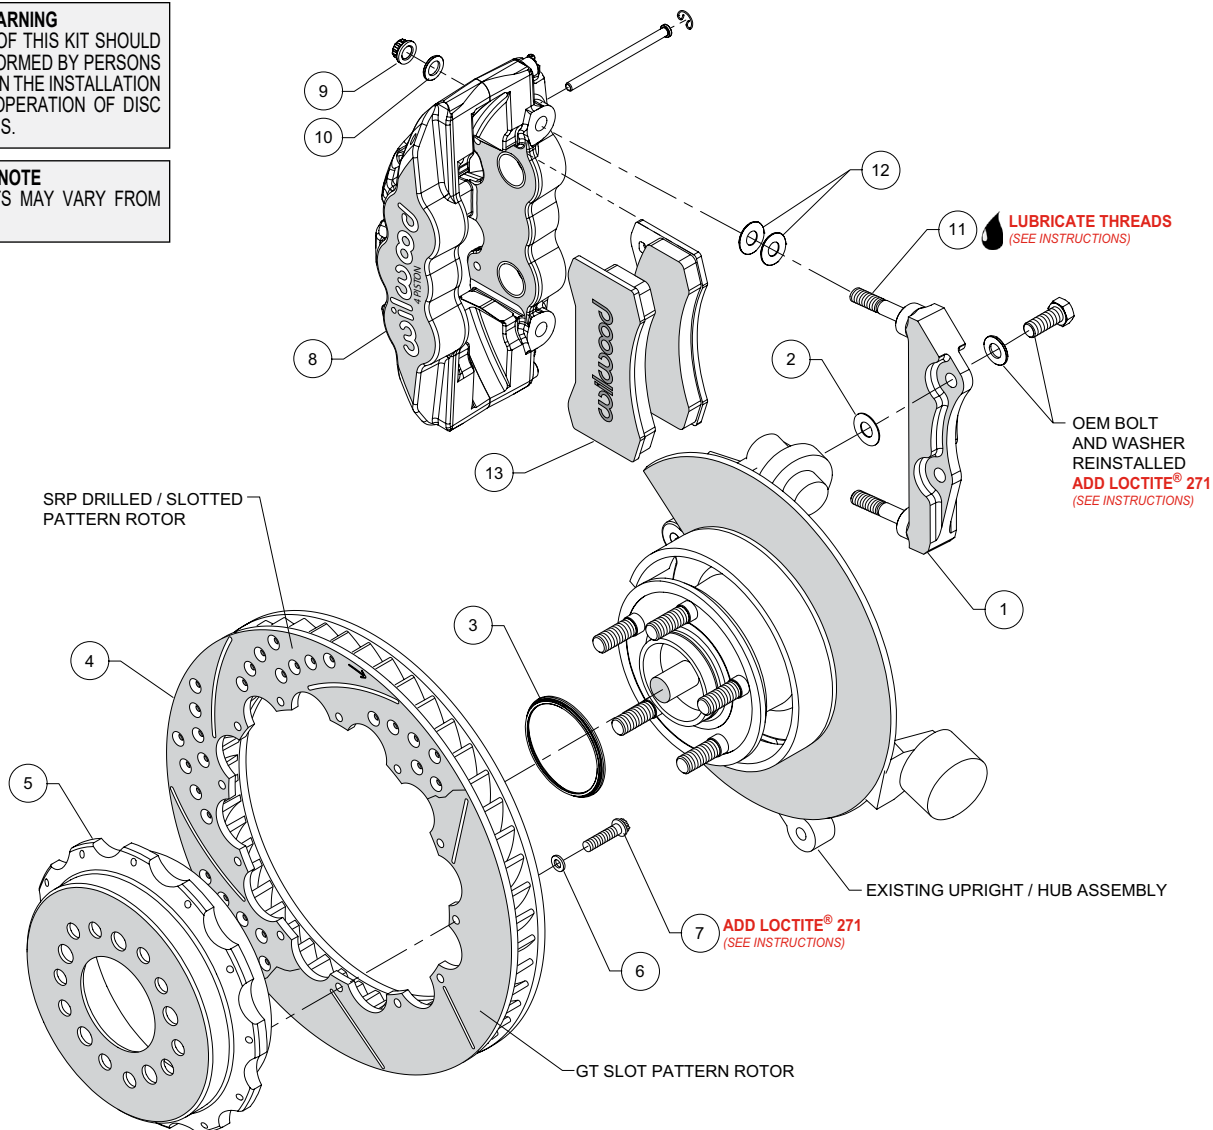
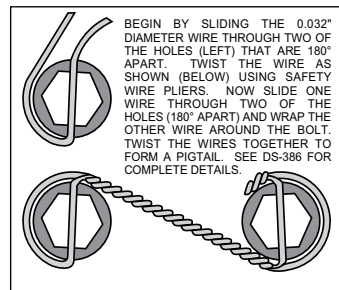

Figure 1. Typical Installation Configuration
Figure 3. Safety Wire Diagram
**Assembly Instructions** (numbers in parenthesis refer to the parts list and Figure 1 on the preceding pages):
- The caliper mount bracket (1) should initially be installed with clean, dry threads on the mounting bolts. Orient the bracket as shown in Figure 1 and install using the saved OEM caliper mount bolts and washers. Initially place one .033" thick shim (2) on each bolt between the bracket and upright, Figure 1. Temporarily tighten the mounting bolts. **NOTE: The bracket must fit squarely against the mount bosses on the upright.** Inspect for interference from casting irregularities, machining ridges, burrs, etc. Later, after the caliper alignment has been checked, the mount bolts will be secured using red *Loctite*® 271.
- Orient the rotor (4) and the hat (5) as shown in Figure 1 and Photo 1. Attach rotor to hat using bolts (7) and washers (6). Apply red *Loctite*® 271 to the bolt threads and torque to 155 in-lb using a criss-cross pattern. For an added measure of security, the bolts may be safety wired using standard 0.032 inch diameter stainless steel safety wire as shown in Figure 3. Please refer to Wilwood's data sheet DS-386 (available at [www.wilwood.com/Pdf/DataSheets/ds386.pdf](http://www.wilwood.com/Pdf/DataSheets/ds386.pdf)) for complete safety wire installation instructions.
- Slide the rotor registration adapter (3) onto the axle register on the axle hub with the smaller O.D. facing outward, Photo 2. Slide the hat/rotor assembly onto the axle hub. **NOTE: The hat must fit flush against the axle hub flange or excessive rotor run out may result.** Install three lug nuts (finger tight) to keep the hat/rotor assembly in place while continuing with the installation.
- Lubricate the caliper mounting studs (11) with lightweight oil. Initially place two .030" thick shims (12) on each stud between the caliper and the bracket, as shown in Figure 1 and Photo 3. Mount the caliper (8) onto the bracket (1) using lock nuts (9) and washers (10), Figure 1. Temporarily tighten the lock nuts and view the rotor through the top opening of the caliper. The rotor should be centered in the caliper, Photo 4. If not, adjust by adding or subtracting shims (2) between the bracket and the upright. Always use the same amount of shims on each of the two mounting bolts. Once the caliper alignment is correct, remove the bracket mounting bolts one at a time, apply red *Loctite*® 271 to the threads, and torque to 65 ft-lb.
- Remove the two pad retaining pins from the caliper (8) by carefully popping out the pin retaining clips and sliding out the pins. Insert the brake pads (13) into the caliper from the bottom, Figure 1 and Photo 5. With the friction material facing the rotor, secure the brake pads in place with the pad retaining pins and clips, Photo 6. Reinstall the caliper onto the caliper mounting bracket and temporarily tighten the lock nuts. Check that the top of the brake pad is flush with the outside diameter of the rotor, Photo 8. If not, adjust by adding or subtracting shims (12) between the caliper and the bracket. After the caliper pad height is set, torque the caliper lock nuts (12) to 47 ft-lb.